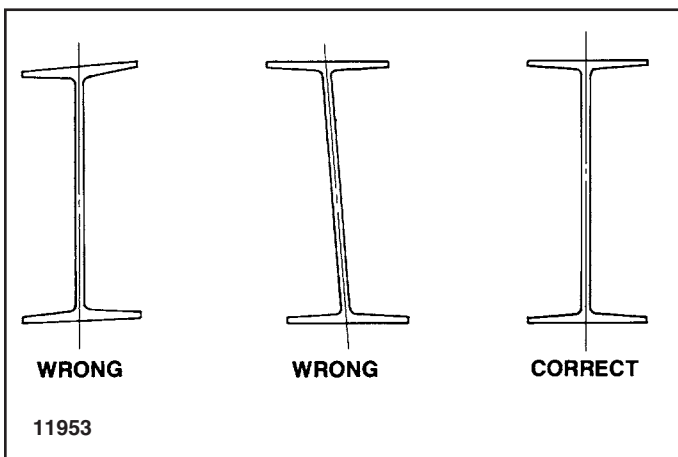

Figure 2. Correct Beam Selection.
**1. Bridge Beam.** Obtain one length of American Standard Section I-Beam or Wide Flange Beam of the size recommended (see charts on page 1 and 2) for the rated load and span of bridge. The beam selected must be straight with flanges parallel to each other and flanges at 90 degrees to the web. See Figure 2. Where a channel is also required, the channel must be a minimum length of the span minus 4'-0".